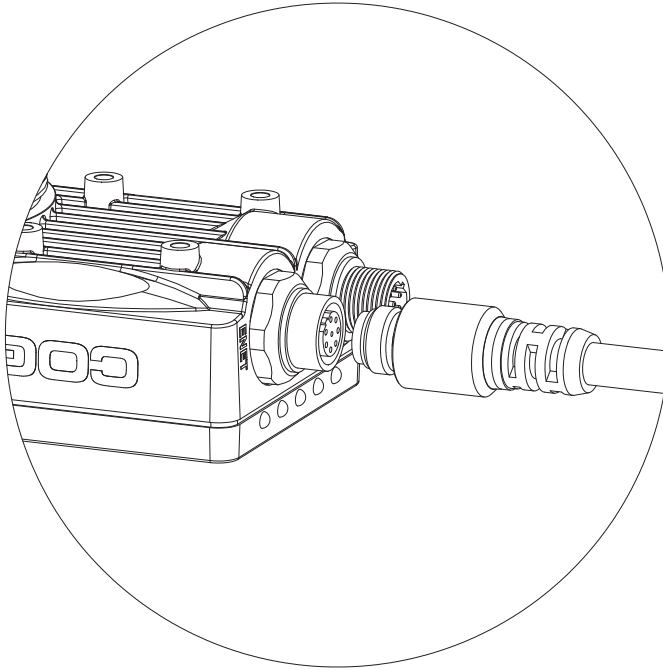

Figure 2-5: Connect the Ethernet cable
1. Attach the Ethernet cable's male M12 connector to the vision system's female M12 ENET connector (Figure 2-5).